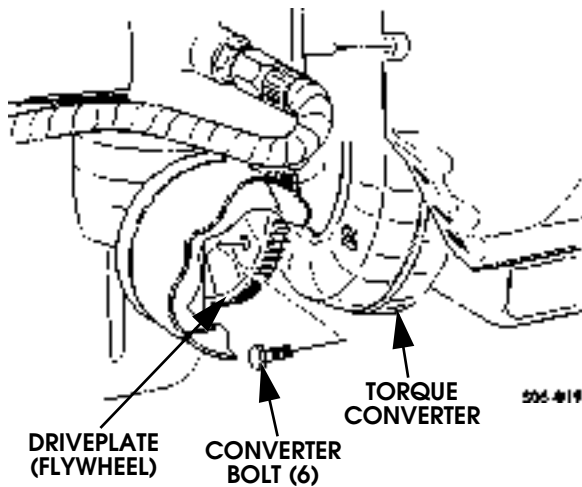

Figure 5-53: Torque Converter-To-Flexplate Bolt Locations
21. Remove bolts attaching torque converter to driveplate flywheel (Figure 5-53).